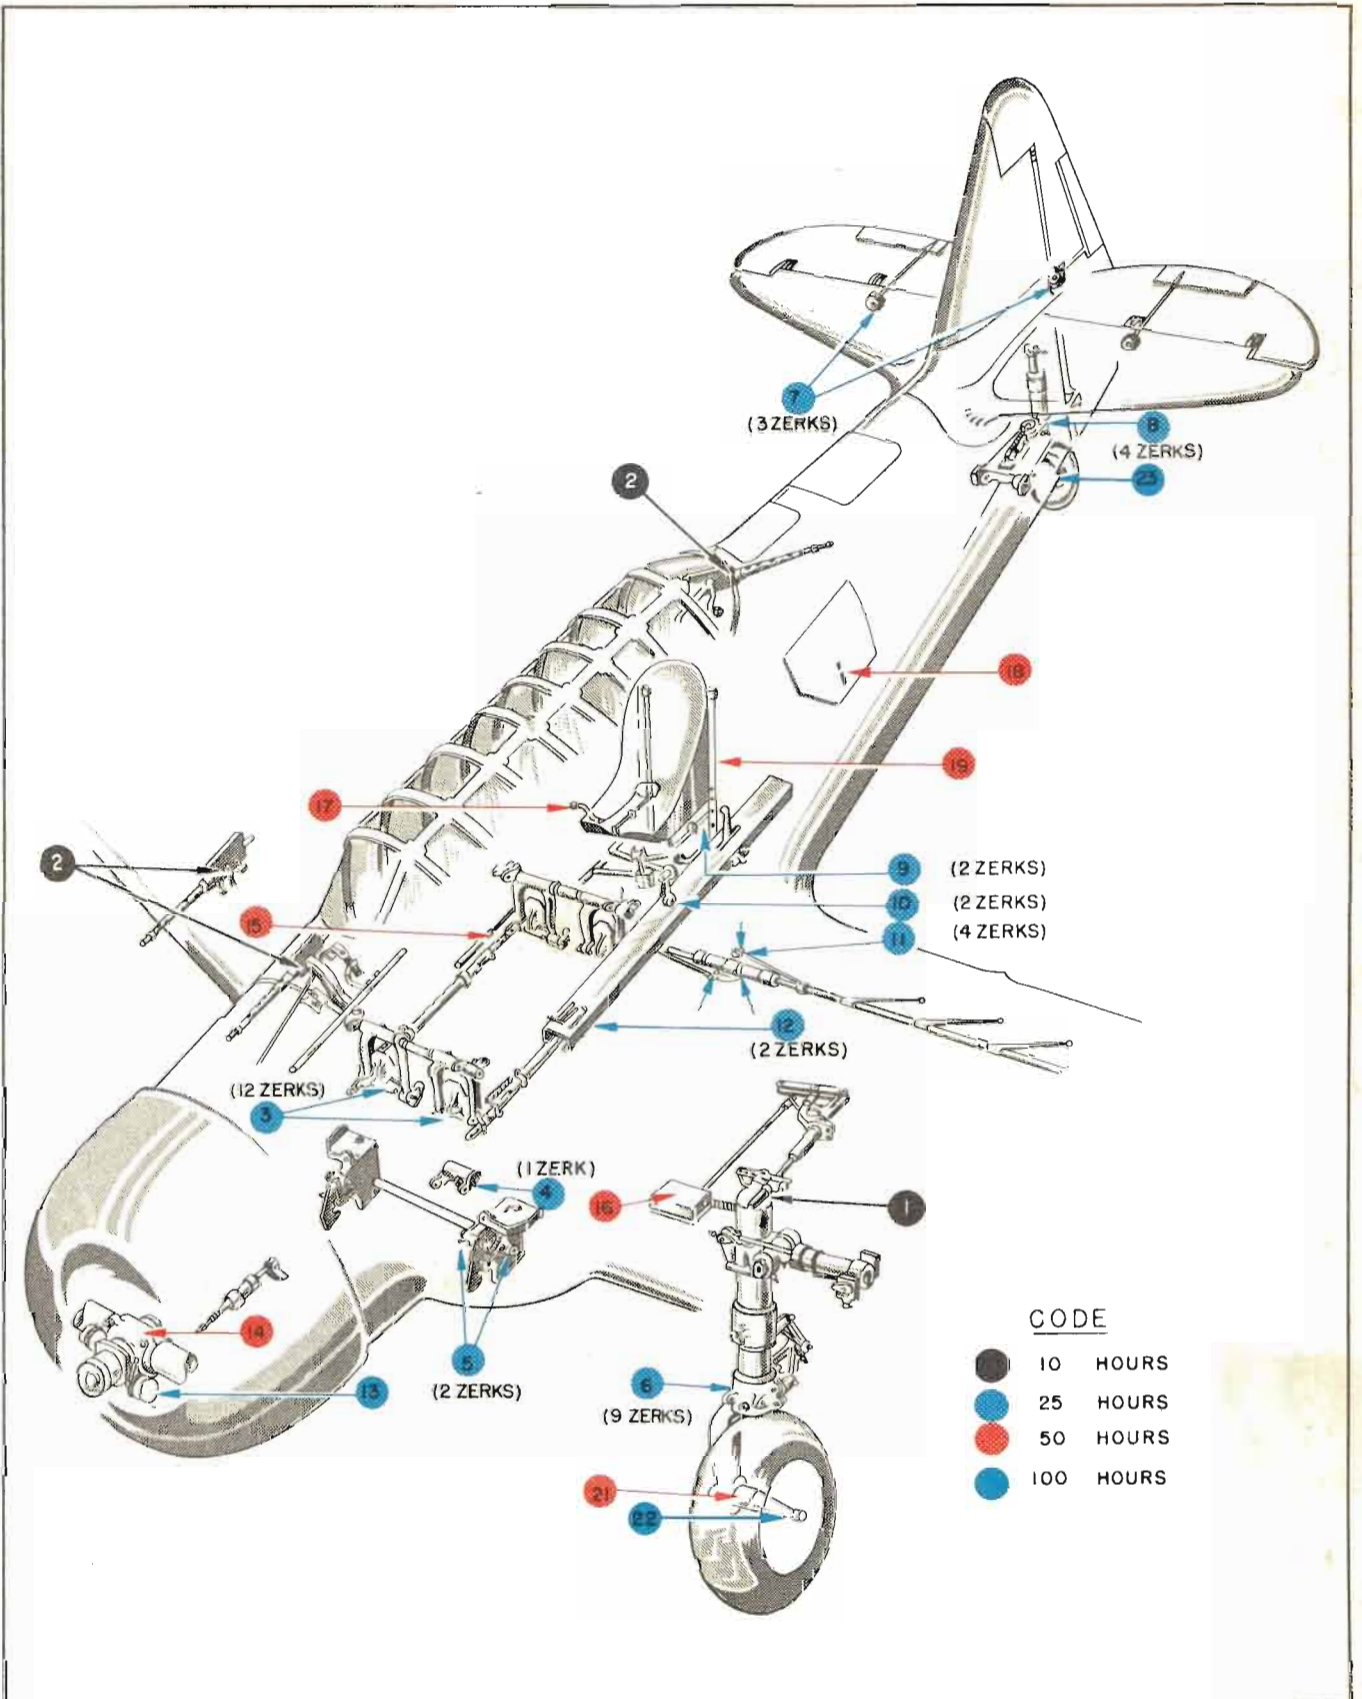

Figure 38 — Lubrication Diagram
- (4) For the last 2 minutes of the dilution, operate propeller pitch control to get change of 400 rpm. Repeat three times.
**a. GENERAL.**—See figure 38 for lubrication instructions including the period, location, and type of lubricant used. A zerk-type grease gun, located on the lower left engine mount tube and packed with low-temperature lubricating grease, provides means of lubrication at points equipped with zerk-type lubricator fittings. The lubricator fittings are painted *yellow* to insure ready identification. Ball bearings used in pulleys, bell cranks, hinge points, and rod ends are of the sealed type, packed with lubricant at assembly and require no further lubrication. Where light lubricating oil is specified but not available, clean engine oil will be found satisfactory. Where possible, assemblies requiring lubrication shall be lubricated at point of assembly. Excess application of lubricants is to be avoided. Do not apply oil or grease to cockpit enclosure tracks, as this will tend to attract dust and grit, causing difficulty in operation. Excess lubricant, exterior to the bearing surfaces, will attract dirt and grit and may cause malfunction of the mechanism.
(1) Seat adjustment tubes, etc., require only a thin film of grease. Do not lubricate lightly-loaded slides that work freely unless protection against corrosion is necessary.
(2) Most of the ball bearings used in the airplanes are of the sealed type and are prepacked with lubricant by the manufacturer. These bearings need no further attention. Unsealed ball bearings and needle bearings shall be packed with grease to approximately  $\frac{2}{3}$  capacity. When antifriction bearings are completely filled with lubricant, the following troubles are likely to occur:
(3) In greasing the wheels, the roller assemblies shall be taken out of the hub, the grease completely removed from both assemblies, and the bearing cones cleaned with a suitable solvent. After the roller assemblies have dried completely, they shall be thoroughly daubed with grease, AAF Specification No. 3560 (Navy Specification M-372 for Model SNJ airplanes) care being exercised to see that lubricant enters the space between the rollers within the retainer ring.
**Key to Figure 38**